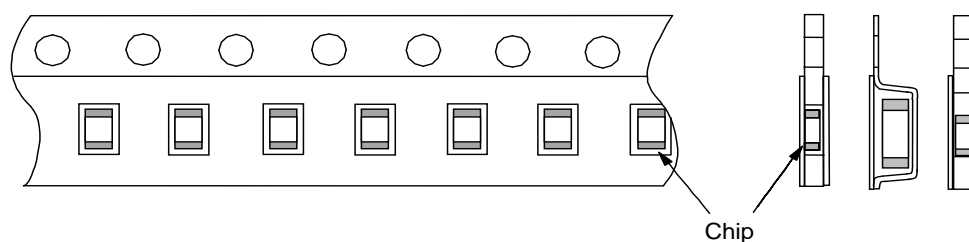

Fig.2 Dimensions of Reel
1.11 Reel is made by resin and appearance and dimension is shown in Fig 2.